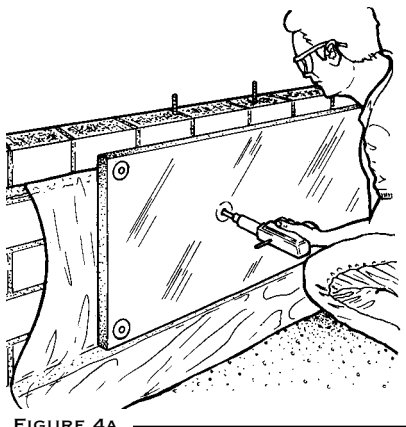

FIGURE 4A
2. Fasten the THERMAX™ or STYROFOAM™ brand insulation boards to the interior of the crawl space wall using powder-driven masonry nails with 1-inch washers or caps. The boards shall be permanently fastened to the interior of the stem wall and extend downward from the top of the stem wall to the exterior finished grade level and then vertically and/or horizontally for at least 24 inches. In some situations, an inspection strip may be appropriate. An inspection strip is a 2-inch to 3-inch strip around the top of the stem wall without insulation, which allows inspection for termites. (Check with your local code officials and pest control operators regarding this option.) Space fasteners approximately 2 feet on center vertically and 4 feet on center horizontally. (See Figure 4a.)